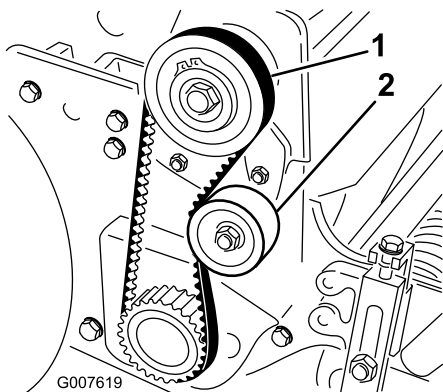

Figure 29
2. Check the tension by pressing the belt at mid span of the pulleys (Figure 29) with 4 to 5 lb of force. The belt should deflect 1/4 inch.
- A. Loosen the idler pulley mounting nut and pivot the idler pulley clockwise against the backside of the belt until you attain the desired belt tension (Figure 29).